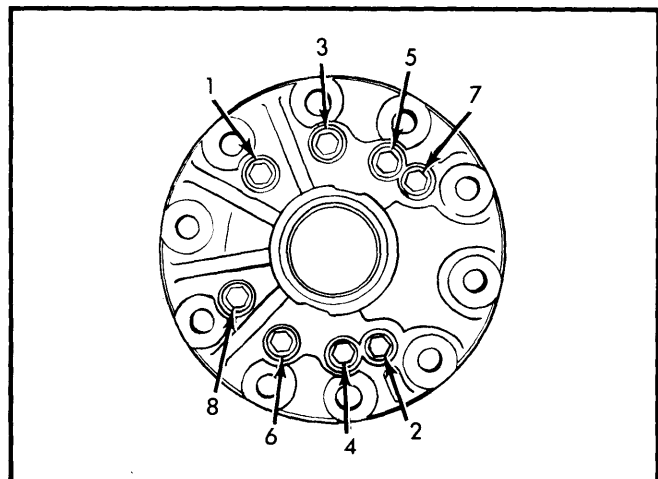

Fig. 4 Cap-to-Flange Bolt Tightening Sequence
2) Insert five springs and spring block into case. Install second cone/gear assembly face down on spring block so that gear will mesh with pinion gears. Place flange half over cone and install bolts finger tight. Torque bolts one turn at a time in sequence shown in Fig. 4 to 30 ft. lbs.